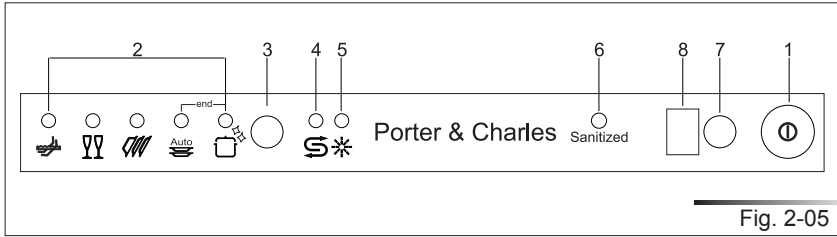

Fig. 2-05
Press and hold down the **program delay** button (ref. 7 fig. 2-05) until the pre-set value appears followed by a dot (normally **3.**). Release the button and then press it again and again until the required value is displayed, as indicated in the table (see tab. 2-03).